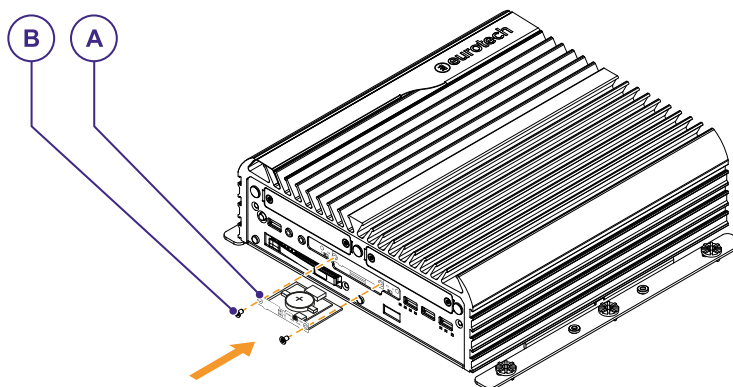

Fig. 10 - Reinstall the battery holder **A**
6. Reinstall the battery holder **A** (Fig. 10 below)